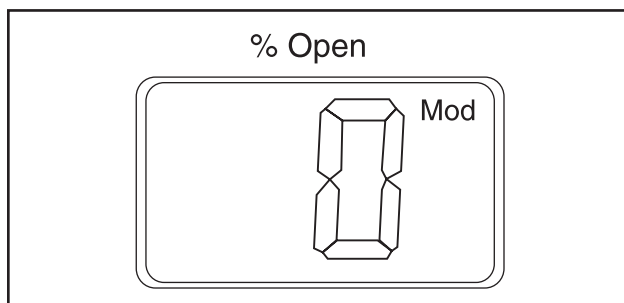

Figure 19
- Normally the Opening Degree (OD) 0 - 100% of the ICM valve is displayed. No activation of push buttons for 20 seconds means that the display will always show OD (Figure 19).